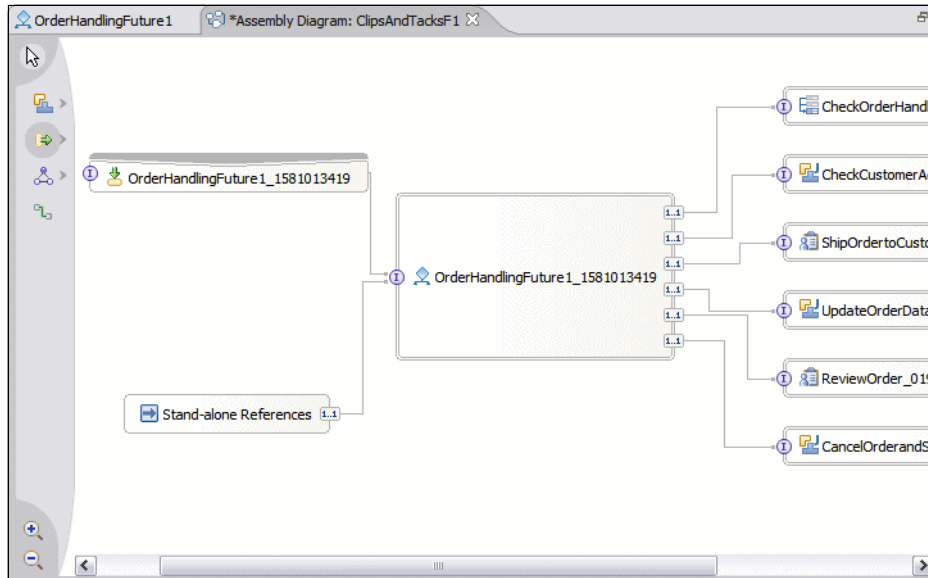

Figure 10-41 Process diagram with stand-alone reference
- ▶ Rearrange the diagram (Figure 10-41).